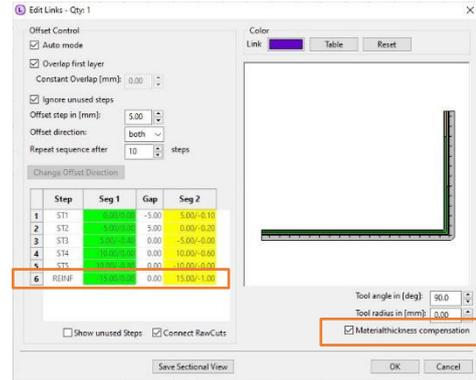

Figure 181
20. Activate **[Materialthickness compensation]** (Figure 181).
Note: Currently our two upper mastercuts are also used for our reinforcement “REINF” step 6 (Figure 181). Disable this step for both mastercuts by applying following actions: